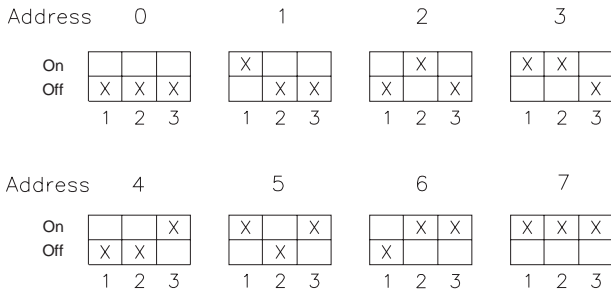

Figure 2 DIP switch settings for the tape drives's SCSI
2. Change the DIP switch settings to the correct SCSI ID for your configuration. Figure 2 shows the settings for SCSI IDs 0 through 7.